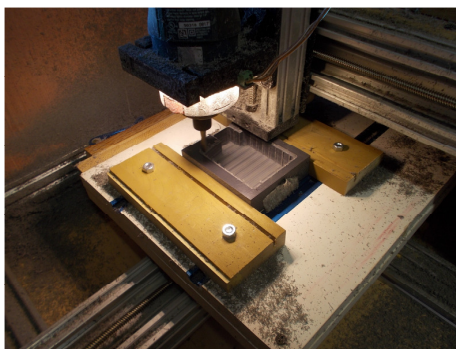

Figure 2. Wood blocks bolted to slotted track hold this work piece.
Right now I am experimenting with hold-downs based on aluminum T-track. Figure 2 shows a method I used while milling a plastic box to hold the electronics for this mill. As shown in this figure, we cut dados in our work surface to accept two T-tracks. The tracks accept $\frac{1}{4}$ " bolt heads and the bolts are used to hold wooden blocks that, in turn, hold the work piece. Since we did not intend to mill through the piece, we used double sided tape to assure the piece stayed in place.
8. Lighting. When preparing to mill something, you want to align the cutter with some point on the piece. This means that you want to be able to see what you are doing. While you could rig a bunch of leds in the work area we purchased the spindle lamp from Open Builds. Notice the lighting of the work piece in Figure 2. Note that this accessory requires 24 volts to operate. We were curious to see if it would give some light with a 12 volt power source. It does not. While I suspect that the leds could be made to run on 12 volts by switching out the resistors on the bottom of the accessory, we did not try that.